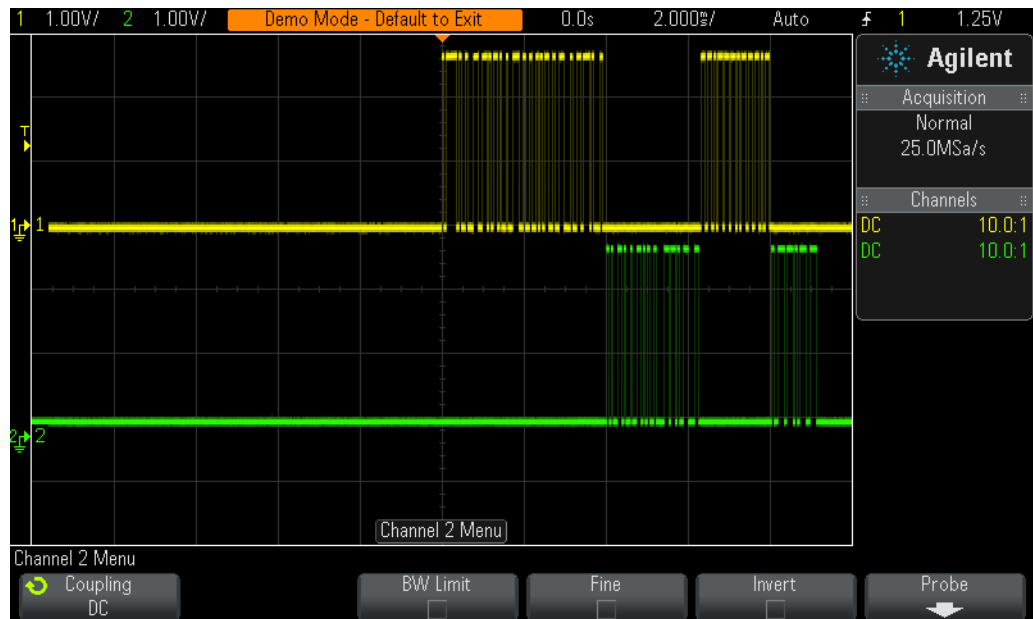

Figure 43 Capturing RS232/UART transmit and receive data signals using the scope's Edge triggering mode.
You should now see on your scope's display what appears to be an un-triggered display of two digital signals similar to Figure 43. Your scope is actually triggering on random rising edges of channel-1, which is the scope's default trigger condition. But these signals are too complex to establish a unique trigger point using simple edge triggering. The signal captured by channel-1 is an RS232 serial receive data signal (RX), and the signal captured by channel-2 is an RS232 serial transmit data signal (TX). Let's first set up the scope to intelligently decode this data stream based on the RS232/UART protocol, and then we will establish a more unique trigger point using RS232/UART triggering.